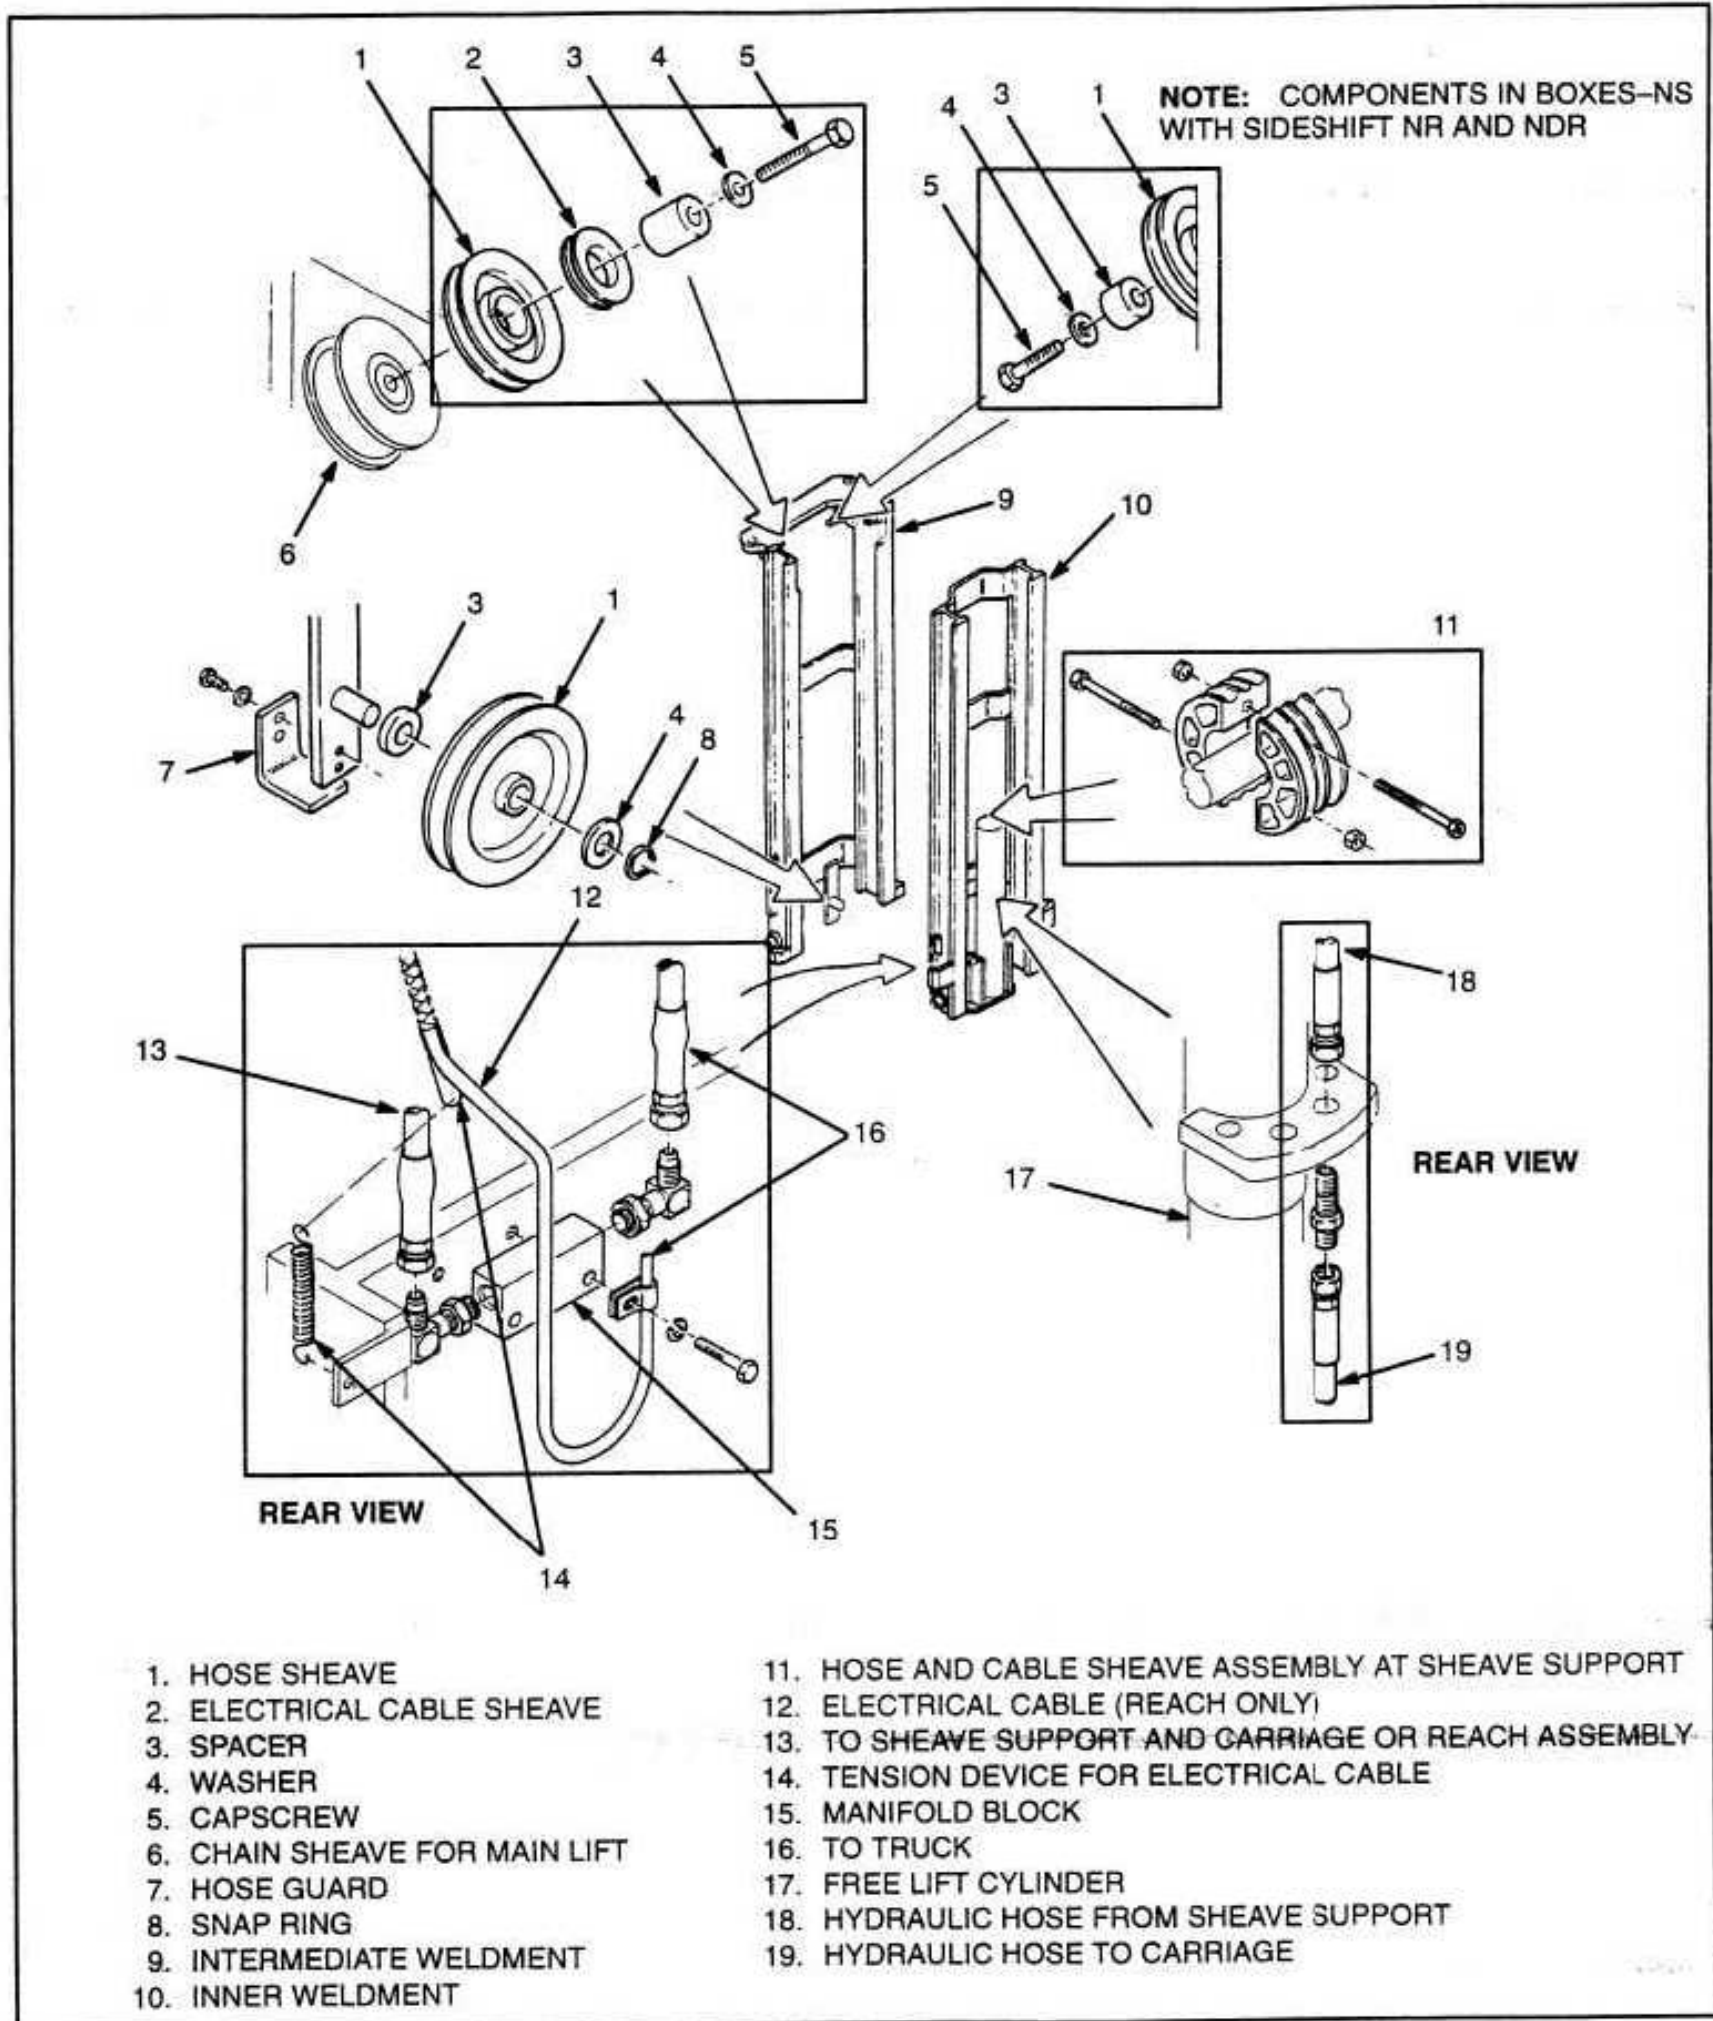
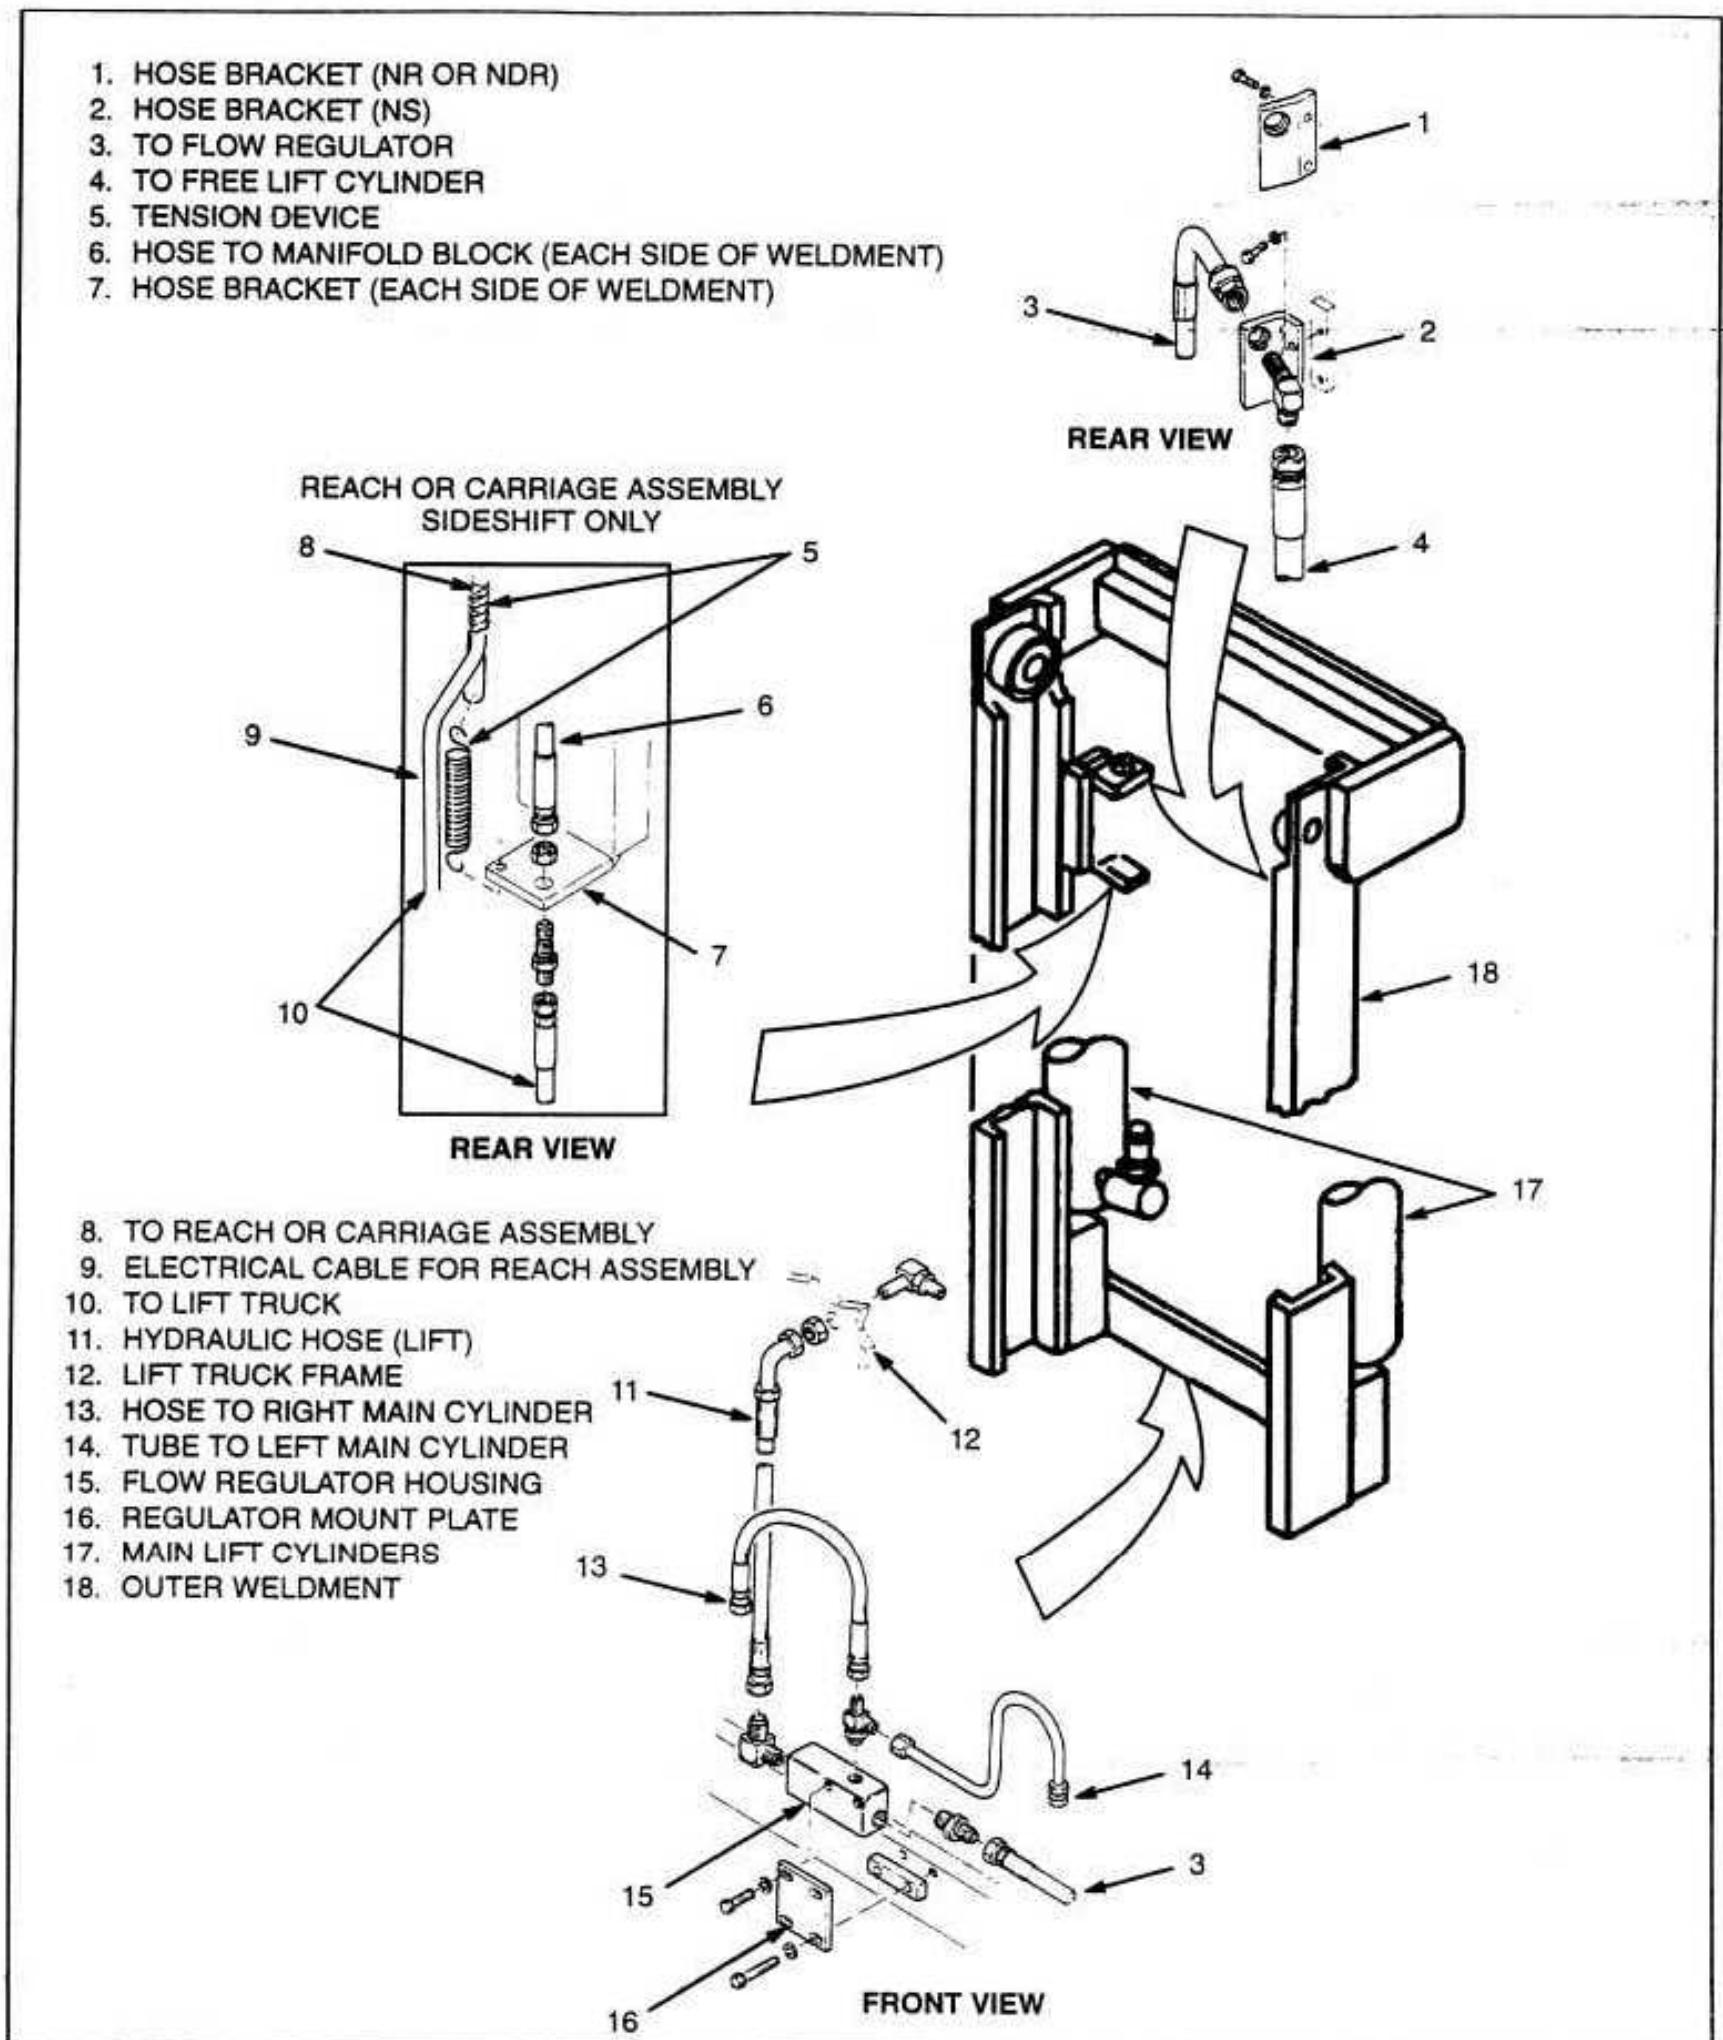

Figure 8-27 – Hose and Cable Assemblies—Inner and Intermediate Weldments
Figure 8-28 – Hose and Cable Assemblies—Outer Weldment
Free Lift Cylinder—Removal and Installation (See Figure 8-25, Figure 8-28 and Figure 8-28)
5. If there are also hose and cable sheaves in the sheave support, disconnect the hoses at the free lift cylinder. Install caps on the hydraulic fittings. Disconnect the spring of the cable tension device. See Figure 8-27.
(See Figure 8-25, Figure 8-27, and Figure 8-28)
(See Figure 8-27 and Figure 8-28)
Hose and Cable Sheaves Replace (See Figure 8-27 and Figure 8-28)
6. Remove the two capscrews and nuts that fasten the two halves of the hose and cable sheave together. See Figure 8-27. Do not let the sheave halves fall.